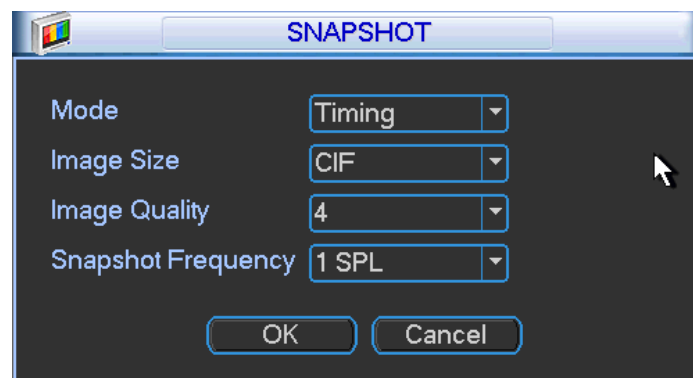

Figure 3-34
- Snapshot: Click snapshot button, you can set snapshot mode, picture size, quality and frequency. See Figure 3-34. **Before the snapshot operation, please make sure the front-end device supports current operation.**